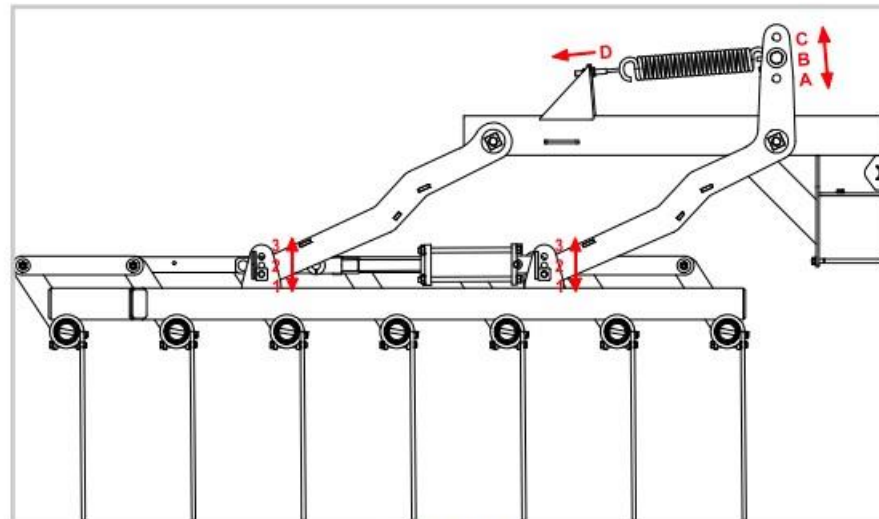

FIGURE 12
- To level the section relocate the tine section pins in holes 1-3 (fig 12).